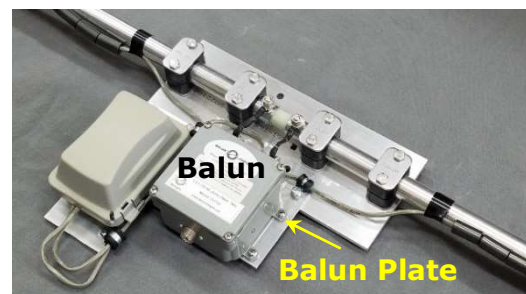

FIGURE 131
- XOR further offers a 4-hole BALUN plate accessory– to support a toroid BALUN, a DIY BALUN, or a third-party BALUN, as shown in **FIG. 131**.